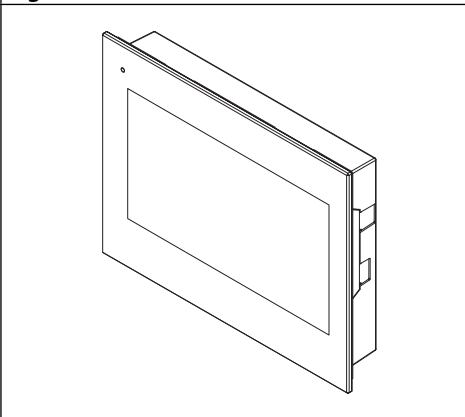

Fig. 8
4. The video intercom is installed (Fig. 8), power up the system and check that it works correctly.